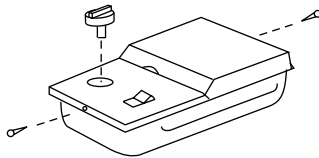

Figure 23
Make sure side burner is OFF. Remove valve control knob and screws. Remove porcelain top. Figure 23.
- f) Reinstall the side burner cover. Figure 23.